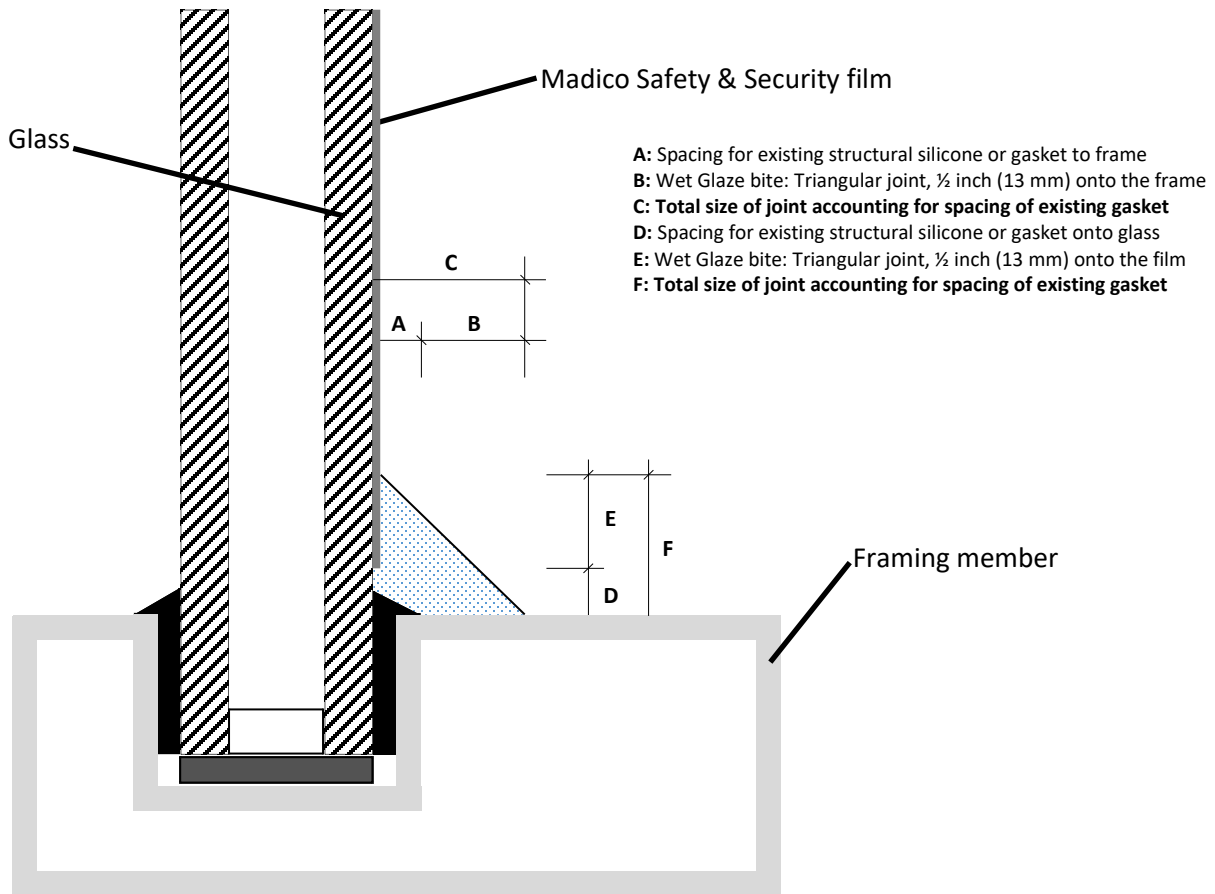

Figure 1. Application utilizing a triangular bead of DOWSIL™ 995 Silicone Structural
- To ensure Wet Glaze adhesion and ultimate performance, a minimum bite of  $\frac{1}{2}$  inch (13 mm) to the frame and film is required, see figure 1 below.